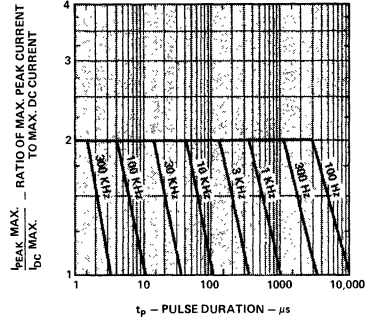

Figure 5. Maximum Tolerable Peak Current versus Pulse Duration. ($I_{DC \text{ MAX}}$ as per MAX Ratings)
- Peak Forward Current See Figure 5